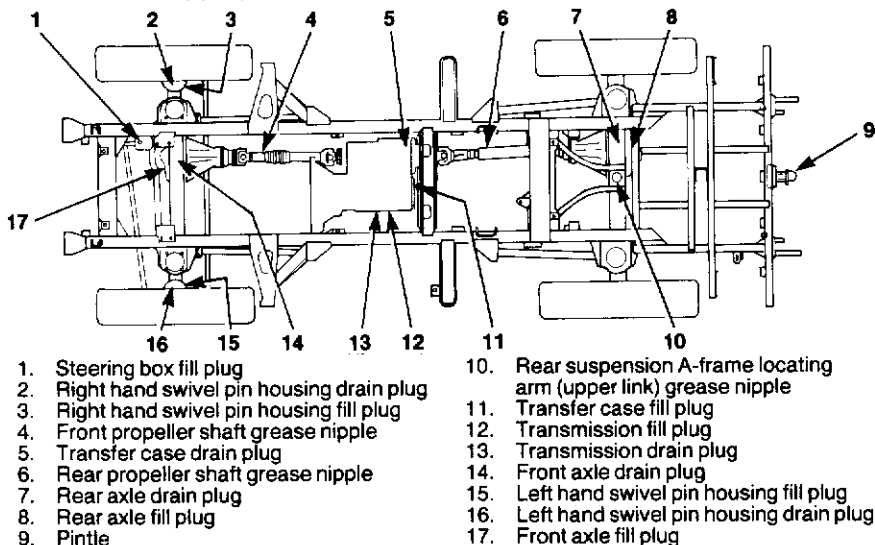

Figure 3-3 Lubrication and oil drain/refill points
320. Fig. 3-3 illustrates the location of various lubrication and oil drainage/refill points around the vehicle.
335. The propeller shafts are each fitted with a grease nipple (see Fig. 3-3 items 4 and 6) and lubrication is required each service.
336. The rear suspension A-frame locating arm (upper link) is fitted with a grease nipple (see Fig. 3-3 item 10) and lubrication is required each service.